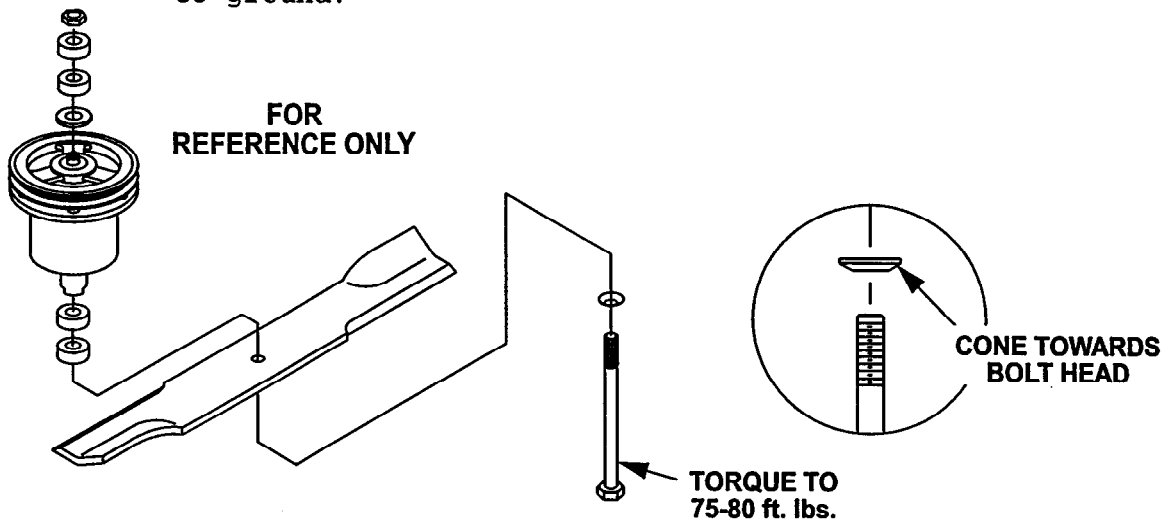

FIG. 12
g) Re-install the blades (if they were removed) and torque blade bolts to 75-80 ft/lbs. Be sure the spring disc washer cone is installed toward the bolt head (See Figure 12).